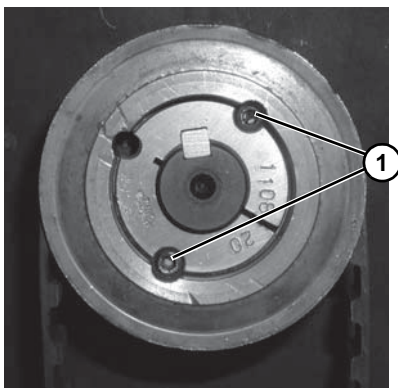

Figure 11
8. Tighten driven pulley taper-lock screws (**Figure 11, item 1**).